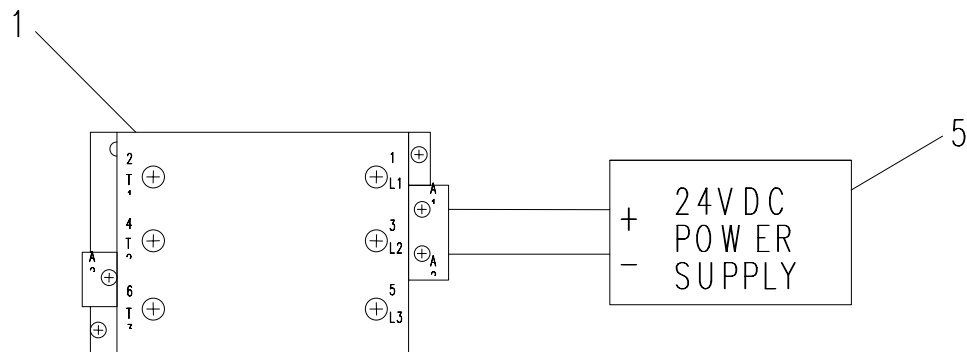

Figure 4-41. Main AC Contactor (Sheet 1 of 2)
- c. Refer to Figure 4-41, sheet 1, and apply 24 VDC across main AC contactor (1) terminals A1 and A2 by connecting positive lead from a power supply to terminal A1 and negative lead from power supply (5) to terminal A2.
- f. Perform steps b through e, testing continuity between L2 and T2 and L3 and T3 on main AC contactor (1).